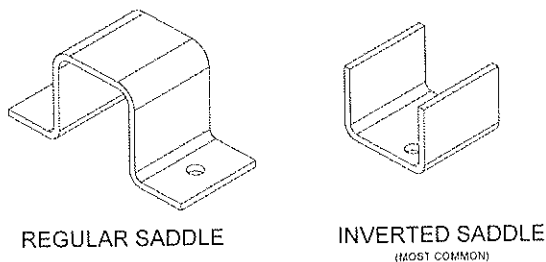

*Figure 5.11 - Fascia Mounting Clip Angle*
- Determine where the fascia of the door will be located with respect to the header/lintel (if one exists) and the jamb. In this configuration, the fascia mounts to clip angles located on the front of the bracket. See **Figure 5.11**.